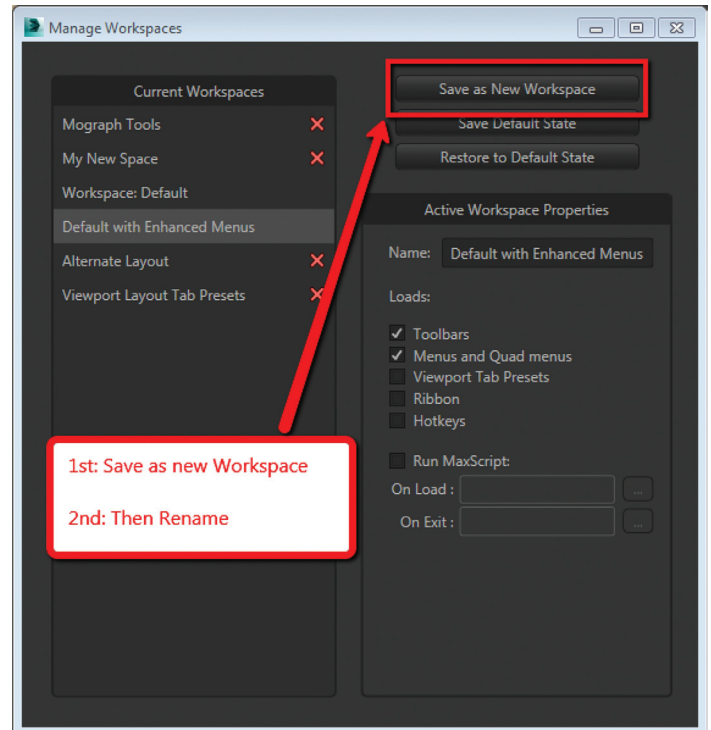

Figure 4: Saving the New UI Workspace
Step 2: Click “Save as New Workspace” FIRST. At this point you will be prompted for a new name (Figure 4).